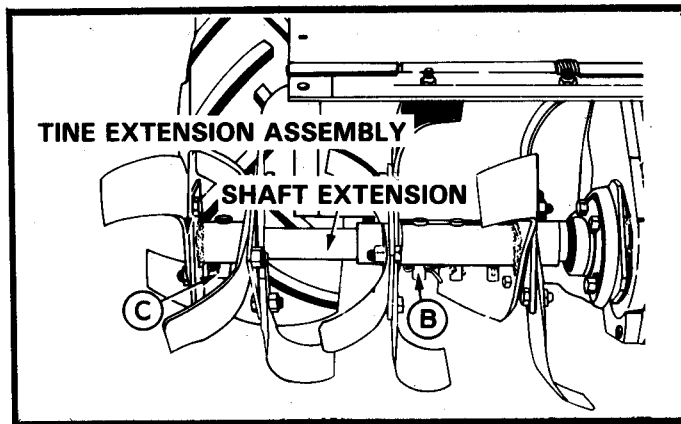

FIGURE 13
2. Install the shaft extension as shown in Figure 13. Secure at "B" with a drilled pin and cotter.
3. Secure tine extension assembly to the shaft extension with a drilled pin and cotter at "C", Figure 13.